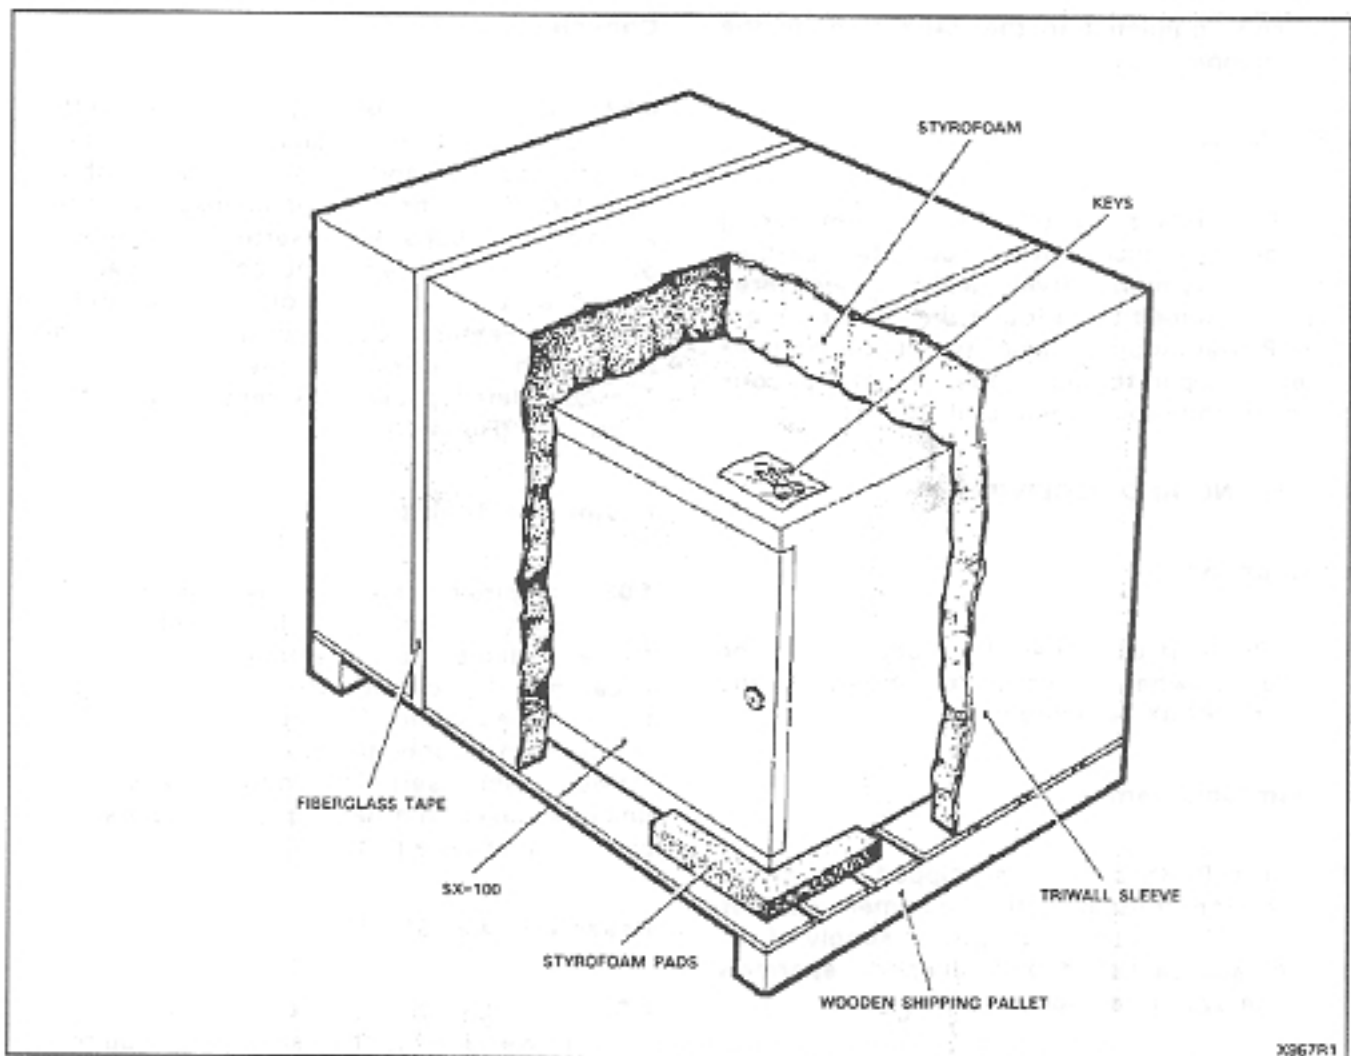

Fig. 4-1 SX-100 System Packaging
**4.01** The equipment is shipped complete with one shelf and with some cards in position. The equipment cabinet is enclosed in a polyethylene sheet and positioned on the shock-absorbant shipping pallet. A styrofoam sheet is placed around and on top of the cabinet to protect it from damage, and the complete assembly encased in a triwall sleeve. Four transportation straps are then fastened to the pallet to prevent any movement of the cabinet package. The tri-wall cap is placed over the sleeve and the complete assembly secured to the shipping pallet by two metal retaining straps. Fig. 4-1 and 4-2 respectively show the packaging arrangements for the SX-100 and SX-200.
**8.01** When the PABX equipment is shipped from one location to another, all items must be packaged to prevent damage. Figs. 4-1 through 4-5 show how the equipment was originally packaged. This method of packaging should be followed as closely as possible.